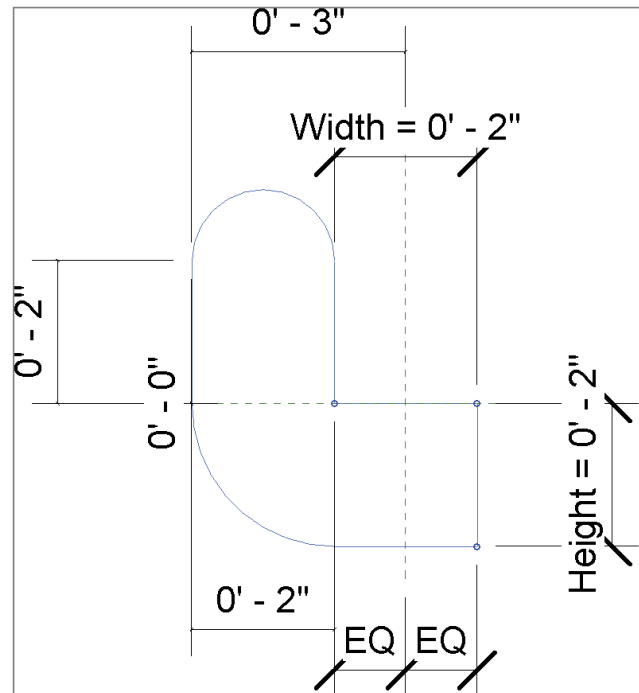

FIGURE 6.31 New handrail profile
- On the Create tab in the ribbon, click the Line tool, and add new profile lines to resemble Figure 6.31. Load the profile into your project; the L Shaped Handrail profile family is now listed in your Project Browser under Families, along with the other profile families.